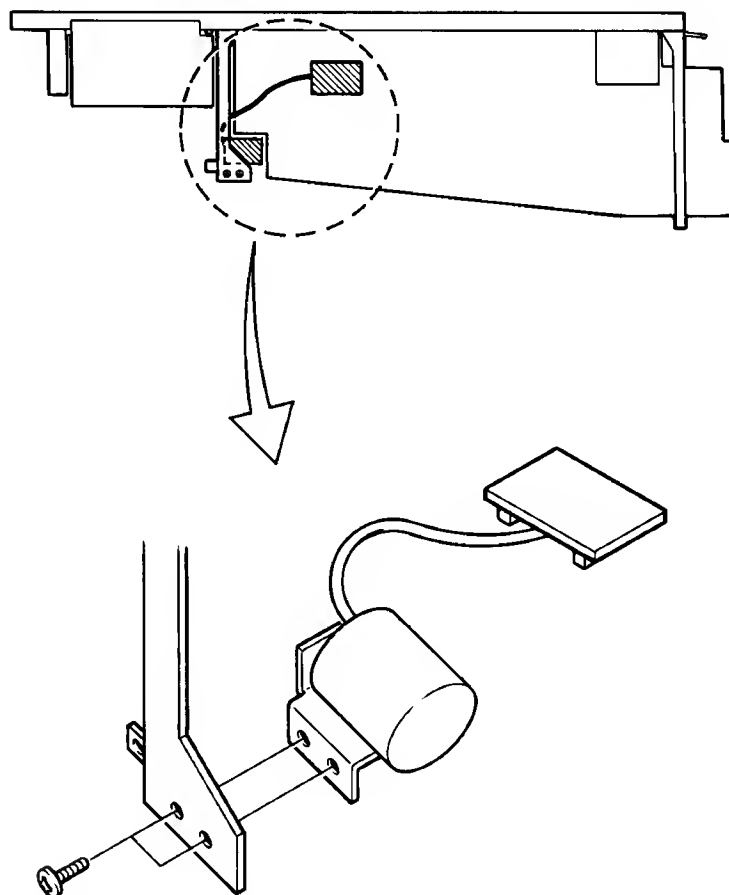

FIGURE 6-6. OPTIONAL INPUT TRANSFORMER INSTALLATION. (IT1800)
The PM1800 standard input module is equipped with a balanced, differential input preamplifier for the XLR connector. That preamp, along with some circuitry for the resistive attenuation pads, is located on a small printed circuit board that "piggy back" mounts to the module's main circuit board. Refer to Figure 6-6.
6. Install the transformer by securing its bracket to the lower left edge of the module frame with the screw provided. Dress the cable that joins the transformer and its circuit board neatly. You may wish to tie it to the board so that after the module is reinstalled, the cable does not become pinched between modules or between the module and mainframe. Refer to Figure 6-6.